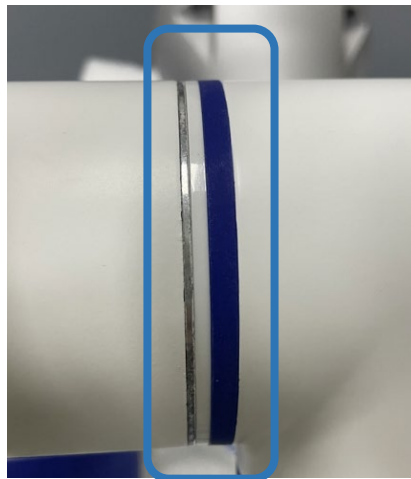

Figure 3-5 Install support rings and rubber rings
- Put down the plastic supporting ring. Then gently superimpose the rubber ring onto the supporting ring as Figure 3-5: